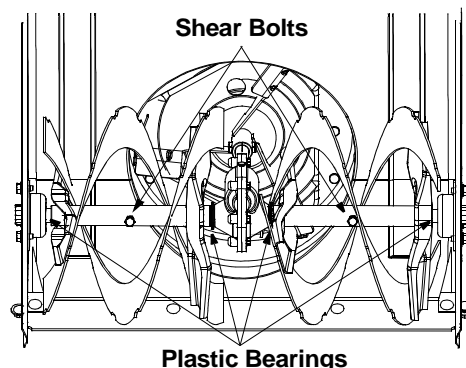

Figure 18
- At least once a season, remove shear bolts from auger shaft. Oil or spray lubricant inside shaft. See Figure 18. Also lubricate the plastic auger bearings at least once a season.